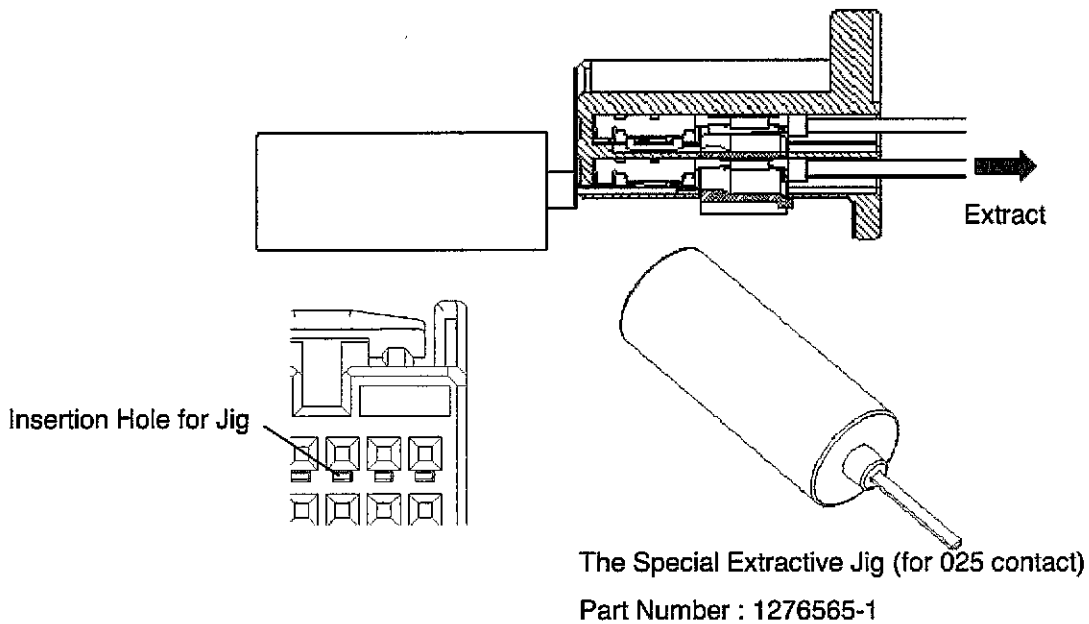

Fig.12
- (1) Confirm the retainer is in pre-assembled condition. When the retainer is in final lock condition, it must be changed to pre-assembled condition. See para.6.3. The female contact can not be extracted in final assembled condition.
- (2) Insert the special extractive jig into the proper hole to the end, remove the loaded contact from housing while pull the crimped wire. See Fig.12.